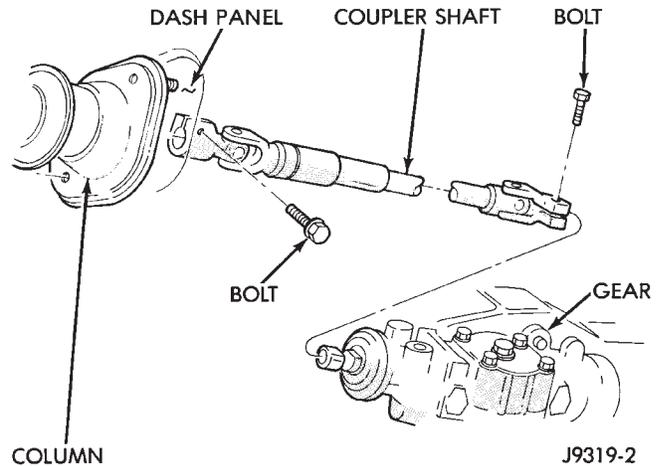

Fig. 2 Coupling Shaft
- (1) Place the front wheels in the straight ahead position with the steering wheel centered.
- (2) Remove and cap the pressure and return hoses from the steering gear.
- (3) Remove the column coupler shaft from the gear (Fig. 2).